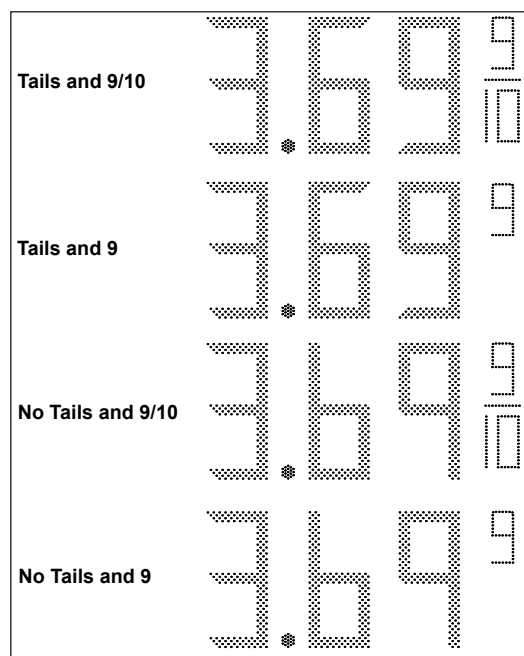

Figure 5: Digit Configurations
- Press and hold the -3 and +3 buttons on the key fob until all displays show the numbers 6 and 9. The number scheme will be either 3.69 9/10 or 4.69 9/10. Refer to **Figure 5**.